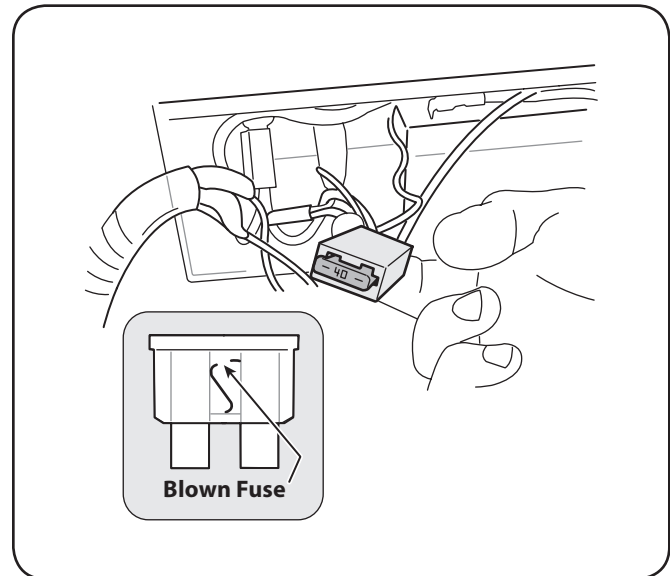

Figure 7-7
2. Remove fuse from socket and inspect as shown in Fig. 7-7. If it is burned out, replace with standard automotive 40 ampere fuse.